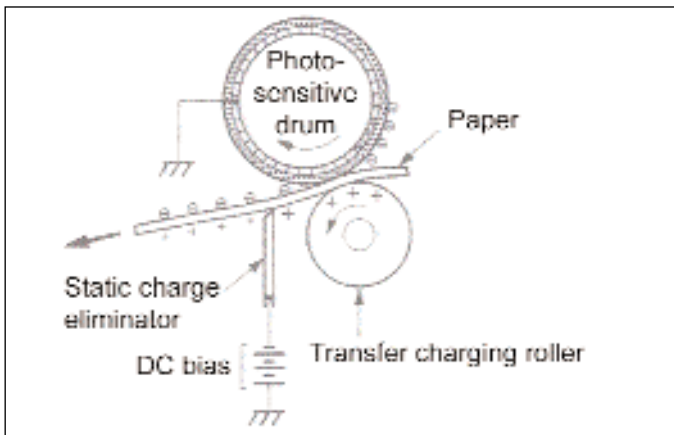

Figure 7
- 5) Transferring. See Figure 7.